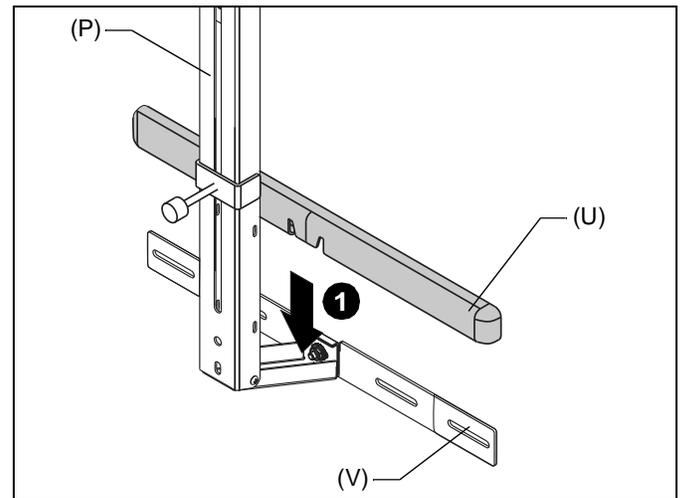

Figure 28
- Lower the lower bracket cover (U) over the lower wall bracket (V), centering front tab over upright assembly (P). (See Figure 28)